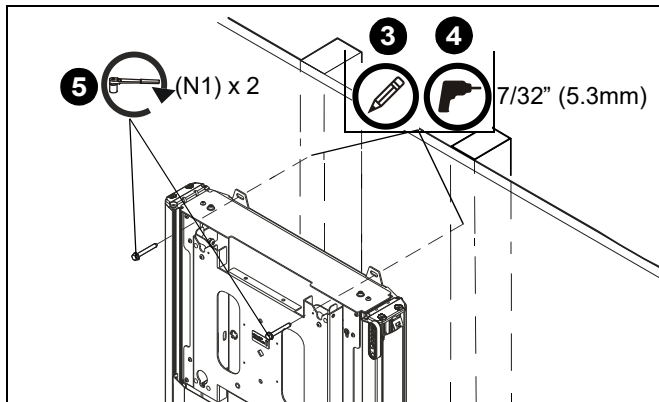

Figure 12
2. Place column assembly against wall making sure to line up attachment brackets with studs. (See Figure 12)
3. Mark hole locations at each mounting location. (See Figure 12)
4. Drill two 7/32" holes at marked hole locations. (See Figure 12)
5. Install two 5/16 x 2 1/2" hex head cap screws (N1) through holes on attachment brackets and into drilled holes on wall. (See Figure 12)